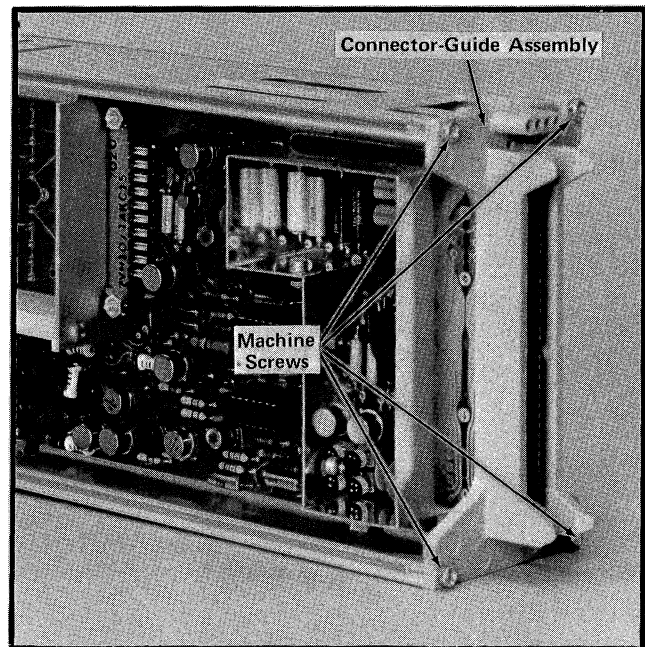

Fig. 4-1. Circuit board replacement.
2. Remove the connector-guide assembly. See Fig. 4-1.